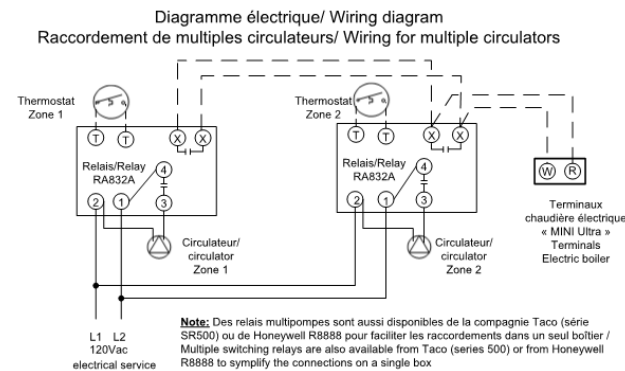

Figure 8 : Zoning with Multiple pumps
N.B.: Make sure to select the appropriate port A, B and AB when making the connection of the piping (see fig.8)
- **If the installation is made as shown on fig.8 then with a three-way valve (in Option):** Install a three wire 18ga cable between the valve and the electric boiler terminals. Following this, connect the end switch of the valve (grey and orange wire) to the **T T** terminals of the auxiliary boiler.